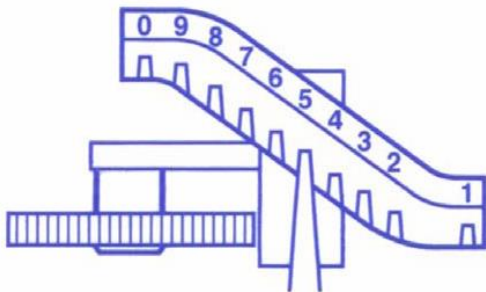

Figure 1a: Range Arm
- 1) Set 10 cent, 1 cent, and 1/10 cent price display wheels to the desired price by positioning and fully engaging the three range arms (Figure 1a).